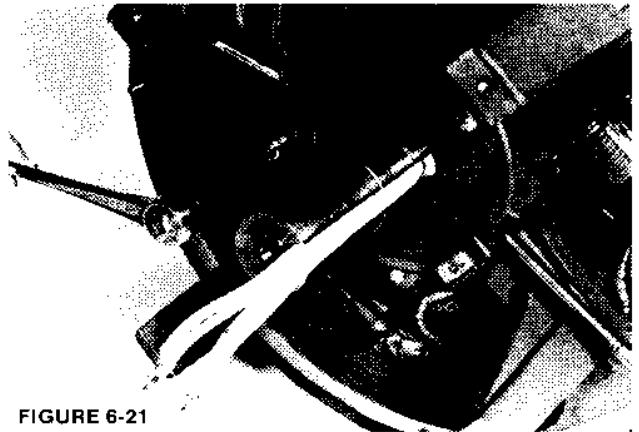
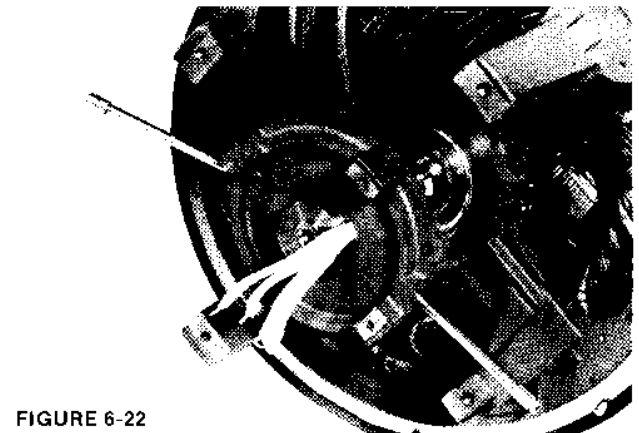

FIGURE 6-21
FIGURE 6-22
2. a. For single bearing generators, remove the four capscrews holding the bearing caps to the front end bracket. (Figure 6-21.) Remove the outer cap. (Figure 6-22.)
- b. For two-bearing generators, remove the drive coupling or sheave and key from the shaft extension. Remove the four capscrews holding the bearing lock to the drive end bracket. (Figure 6-23.) Remove the four capscrews holding the bearing caps to the front end bracket. (Figure 6-21.) Remove the outer cap. (Figure 6-22.)